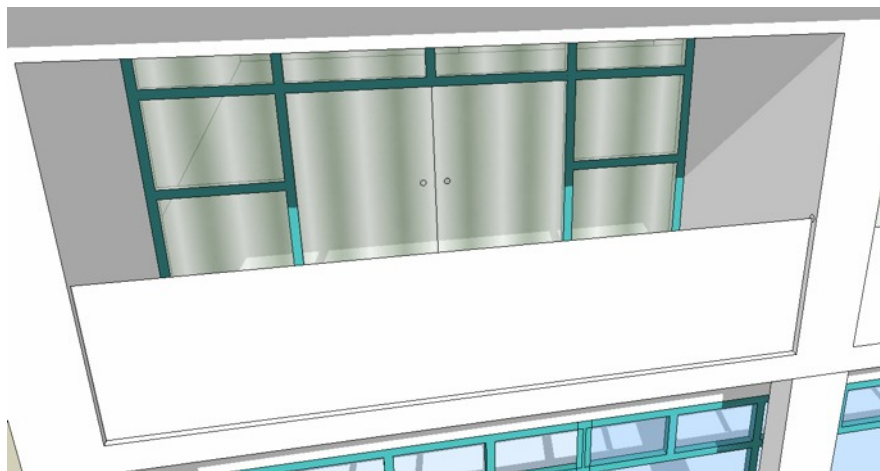

Figure 67. The balustrade face is formed from four lines
- Draw a line up to meet the centre of the circle and a face will be formed as shown in Figure 67.